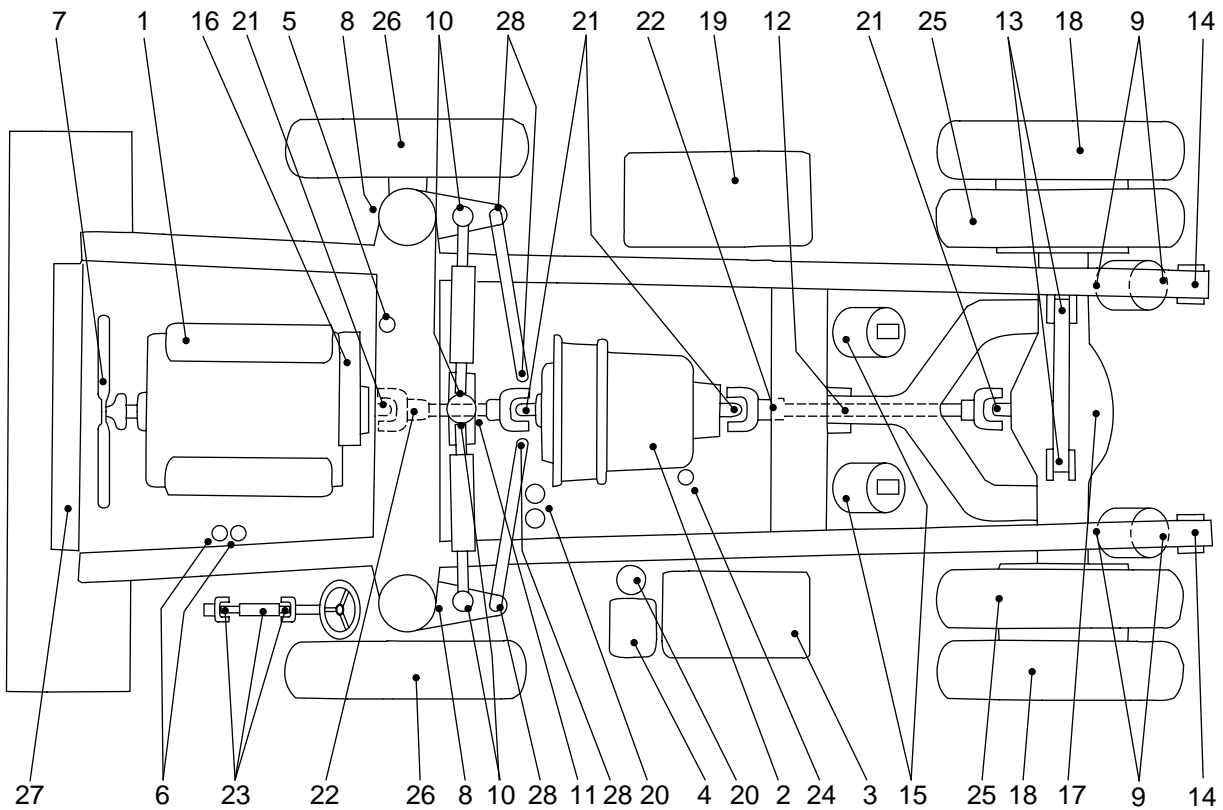

Fig. 1 - Lubrication and Service Points
Numbers in parentheses refer to Fig. 1.
**Note:** When it becomes necessary, body pads (10) should be replaced as a set to maintain load distribution along the chassis. Existing body pads will have taken a compression 'set' and a new pad shimmed to match existing pads will not carry its share of the load, resulting in uneven load distribution along the chassis.
1. Raise body assembly (1) clear of the frame and position body pads (10) roughly in position on the frame rails. Lower body assembly (1) onto body pads (10).
2. Shim the two rear body pads (10) with shims (14 & 15) until body hinge pins (21) are just touching at the top of body assembly (1) bores.
3. Shim remaining body pads (10) with shims (14 & 15) to ensure body assembly (1) is resting parallel on the frame.
4. Secure body pads (10) and shims (14 & 15) to body assembly (1) with bolts (11), washers (12), hardened washers (26) and locknuts (13).
5. Centralise body assembly (1) on the frame rails, remove body hinge pins (21) and reinstall with shims (20) to obtain a maximum gap of 1.5 mm (0.060 in) between inner leg and body pivot. Secure body hinge pins (21) with bolts (22) and hardened washers (23).
6. Ensure body assembly (1) is centralised on the frame rails and measure gap between body guides on the frame and the body guides. Secure shims (30, 31, 32 or 33) to body guides on body assembly (1) using bolts (28), washers (9) and nuts (29) as shown in Figure 1. Leave a gap of 3.3 mm (0.13 in) between body and frame guides.